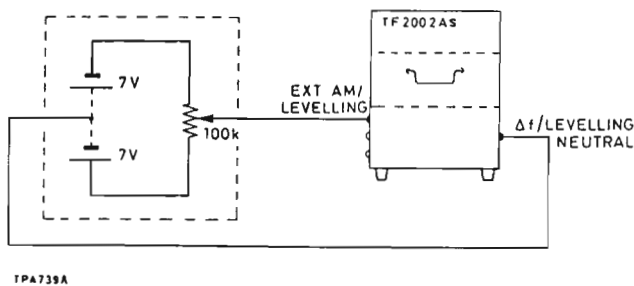

Fig. 2.6 External balanced drive source
- 3) By applying a two-terminal floating, direct or alternating potential between EXT A. M. LEVELLING terminal and the Δf/LEVELLING NEUTRAL terminal at the rear of the instrument. Fig. 2.6 shows a balanced direct source but an